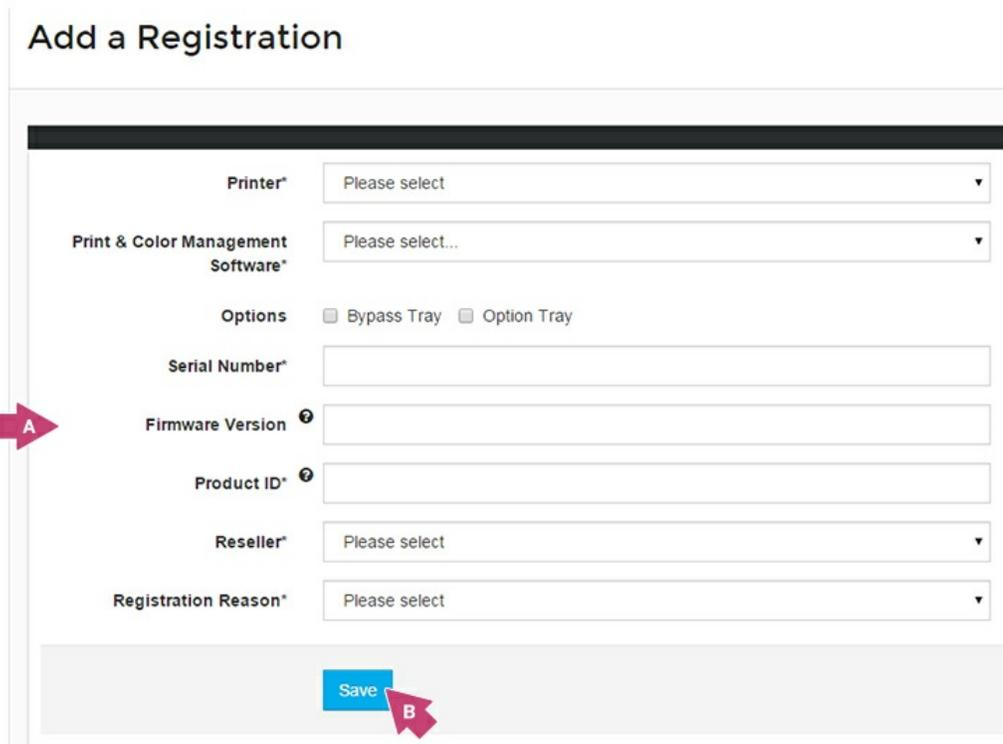

FIGURE 27
27. Complete the **product registration form** and click **Save**. See Figure 27.